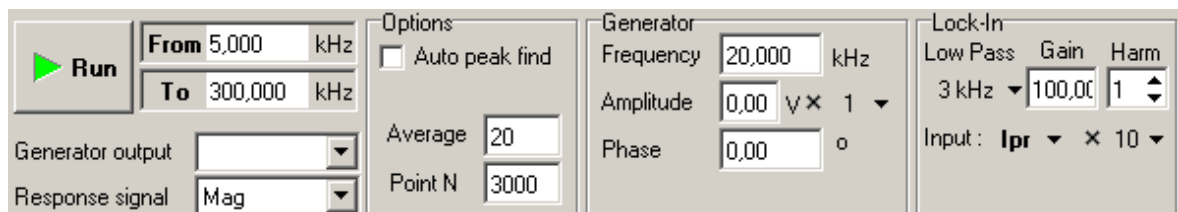

Fig. 1-2
- b. Set the following parameters from the control panel of the tab **Resonance** (Fig. 1-2):